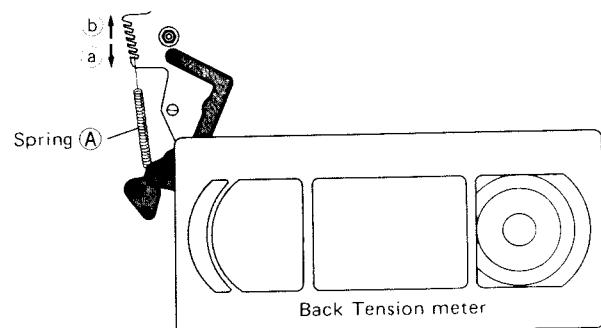

Fig. 4-3
- 3) If the mean value exceeds 58 g-cm adjust the value to 54 g-cm by adjusting the location of the spring **(A)** in the direction of arrow **a** as shown in Fig. 4-3.